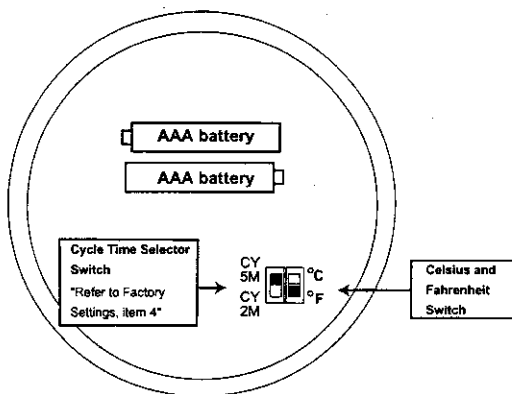

Fig 4 ES100 Thermostat (Back)
- Temperature selection switch (on back of thermostat) set for degree F. (fig 4)
The ES100 is factory set for degree F readout. To change to degree C readout simply move the selector switch located on the back of the thermostat body to the "C" position. (fig. 4)
- Cycle control switch on back of thermostat set to CY5M, Max. 1 cycle per 5 minutes. Move selector down to CY2M to increase cycle rate. (fig. 4)
**To replace batteries:** The batteries are located in the back of the thermostat body. (fig. 4) Follow the instructions below under "Mounting the Thermostat" to remove the thermostat body from the subbase. Remove the old batteries and replace with two (2) new AAA Alkaline batteries. Gently replace the thermostat body to the subbase by positioning the bottom clips on the thermostat into the subbase. Then align and push together the black pin receptacle on the back of the thermostat body with the white pin receptacle on the subbase. Then press and latch the top of the thermostat into the top of the subbase.